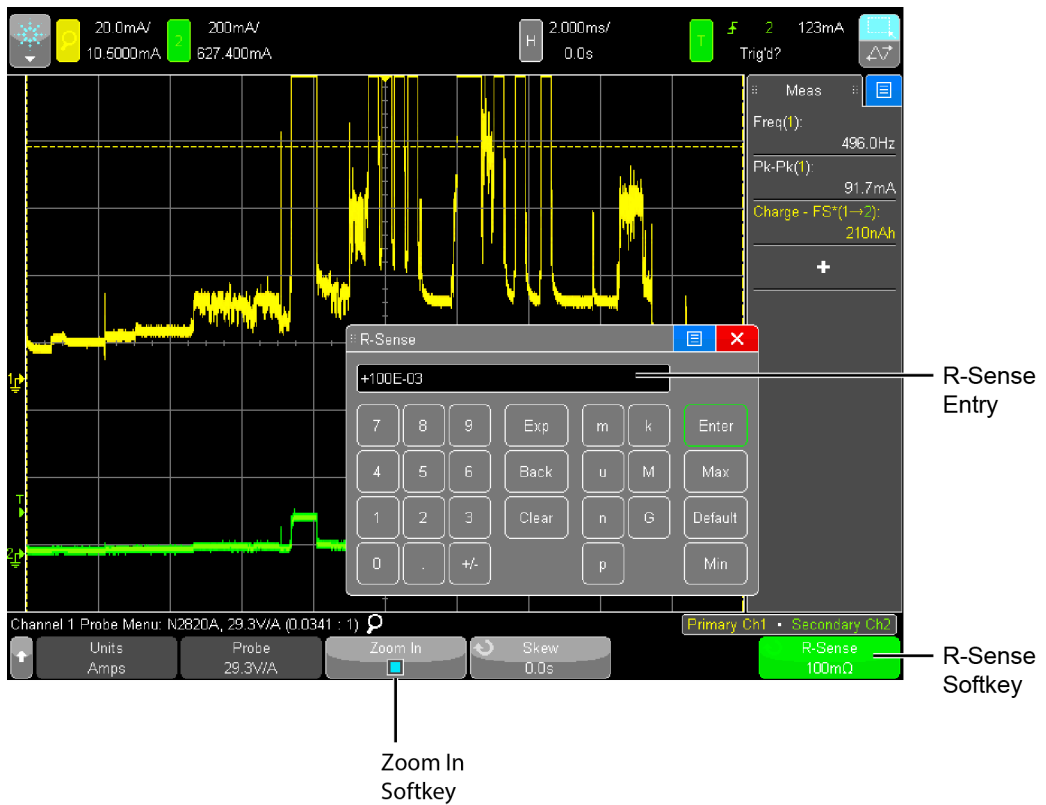

Figure 10 R-Sense Entry Box
- 3 If you are using an N2821A probe, press the **Zoom-In** softkey to toggle between zoomed-in (blue selection box on softkey) or zoomed-out (clear selection box) for the channel. This softkey is shown at the bottom of Figure 10 on page 32.
- 4 If you are using an N2825A user-defined head, which uses a DUT-mounted R_{SENSE} resistor, press the **R-Sense** softkey, shown in Figure 10 on page 32. Then, enter the resistance of the R_{SENSE} resistor that you are using.